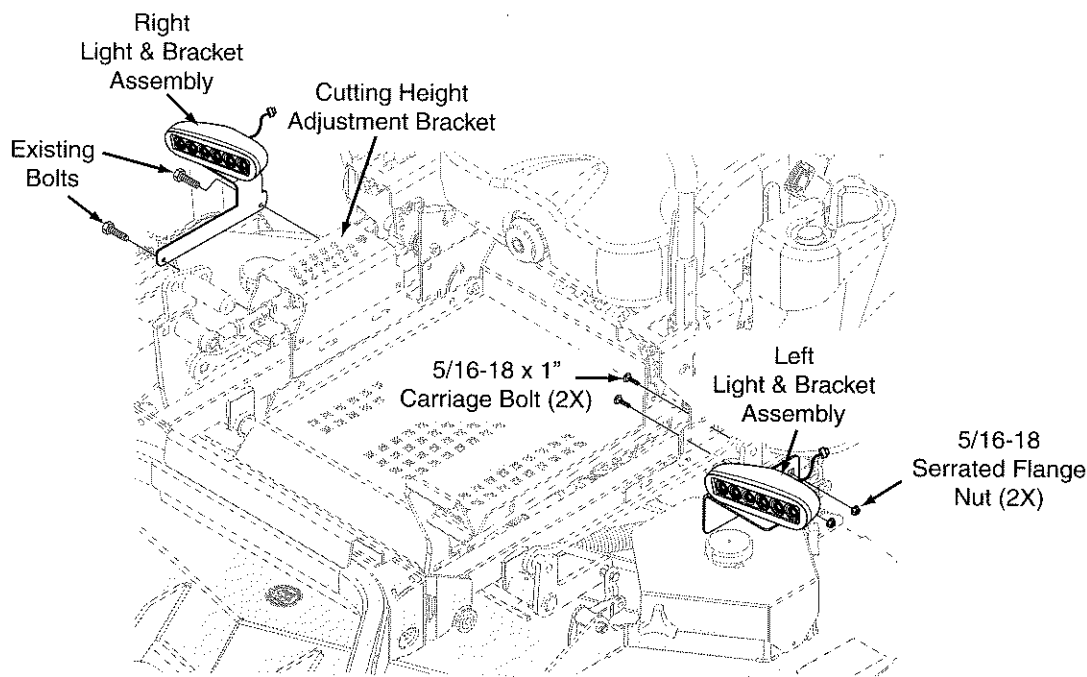

Figure 3. Install Light & Bracket Assemblies
4. Remove the control bracket mounting hardware. Install the left hand light and bracket assembly onto the control bracket and secure using two (2) 5/16-18 x 1" carriage bolts and two (2) 5/16-18 serrated flange nuts provided with this kit. Do not tighten hardware at this time. See Figure 3, Page 3.
5. Remove and retain the two (2) outside 5/16-18 bolts used to secure the cutting height adjustment bracket to the frame of the machine. Using the original hardware, install and secure the right hand light and bracket assembly onto the cutting height adjustment bracket as shown. See Figure 3, Page 3.